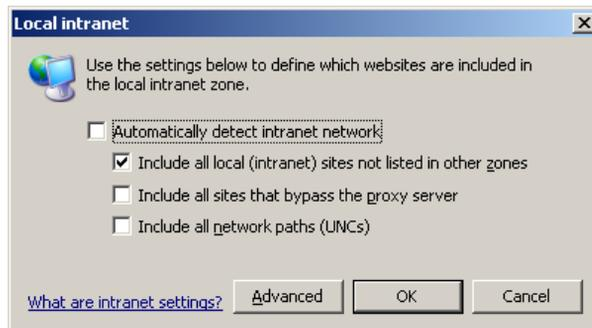

Figure 7. Local Intranet Dialog Box
12. Click **Sites** to open the Local Intranet dialog box (Figure 7).
8. Click **Sites** to open the Local Intranet dialog box (Figure 7).